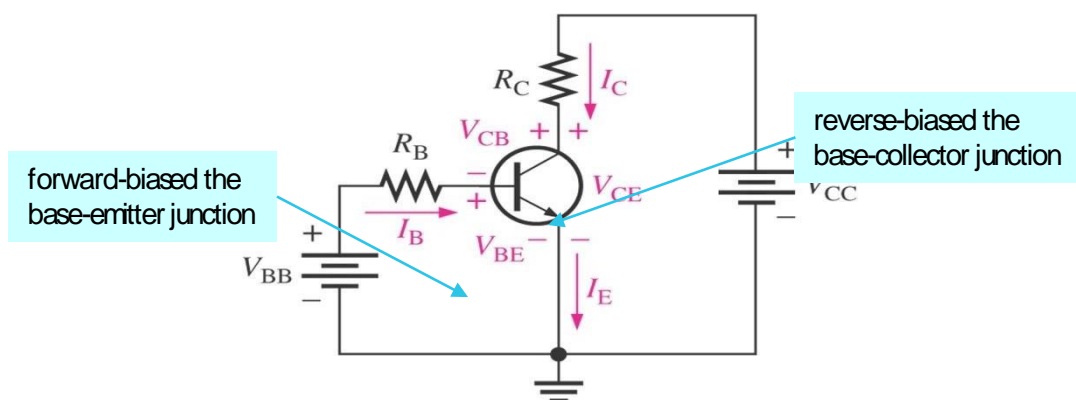

Figure 3.11 Transistor current and voltage
- The current and voltage in Figure 3.11 can be identified as follow :